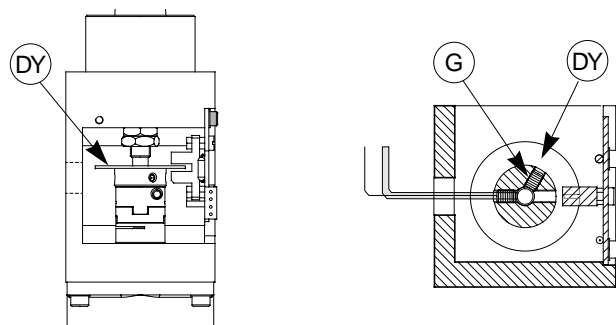

Fig. 25
- turn the Y axis disk manually (fig. 25, page 51) until the display description TY goes from OFF to ON. The display changes from: